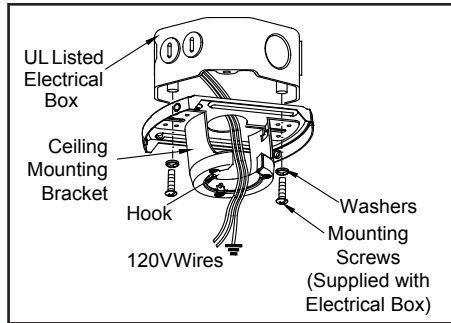

Figure 7
1. Pass the 120-volt supply wires through the center hole in the ceiling mounting bracket as shown in Figure 7.
2. Install the ceiling mounting bracket on the electrical box by using the mounting screws provided with the electrical box. Note that the flat side of the mounting bracket is toward the electrical box. (Figure 7)